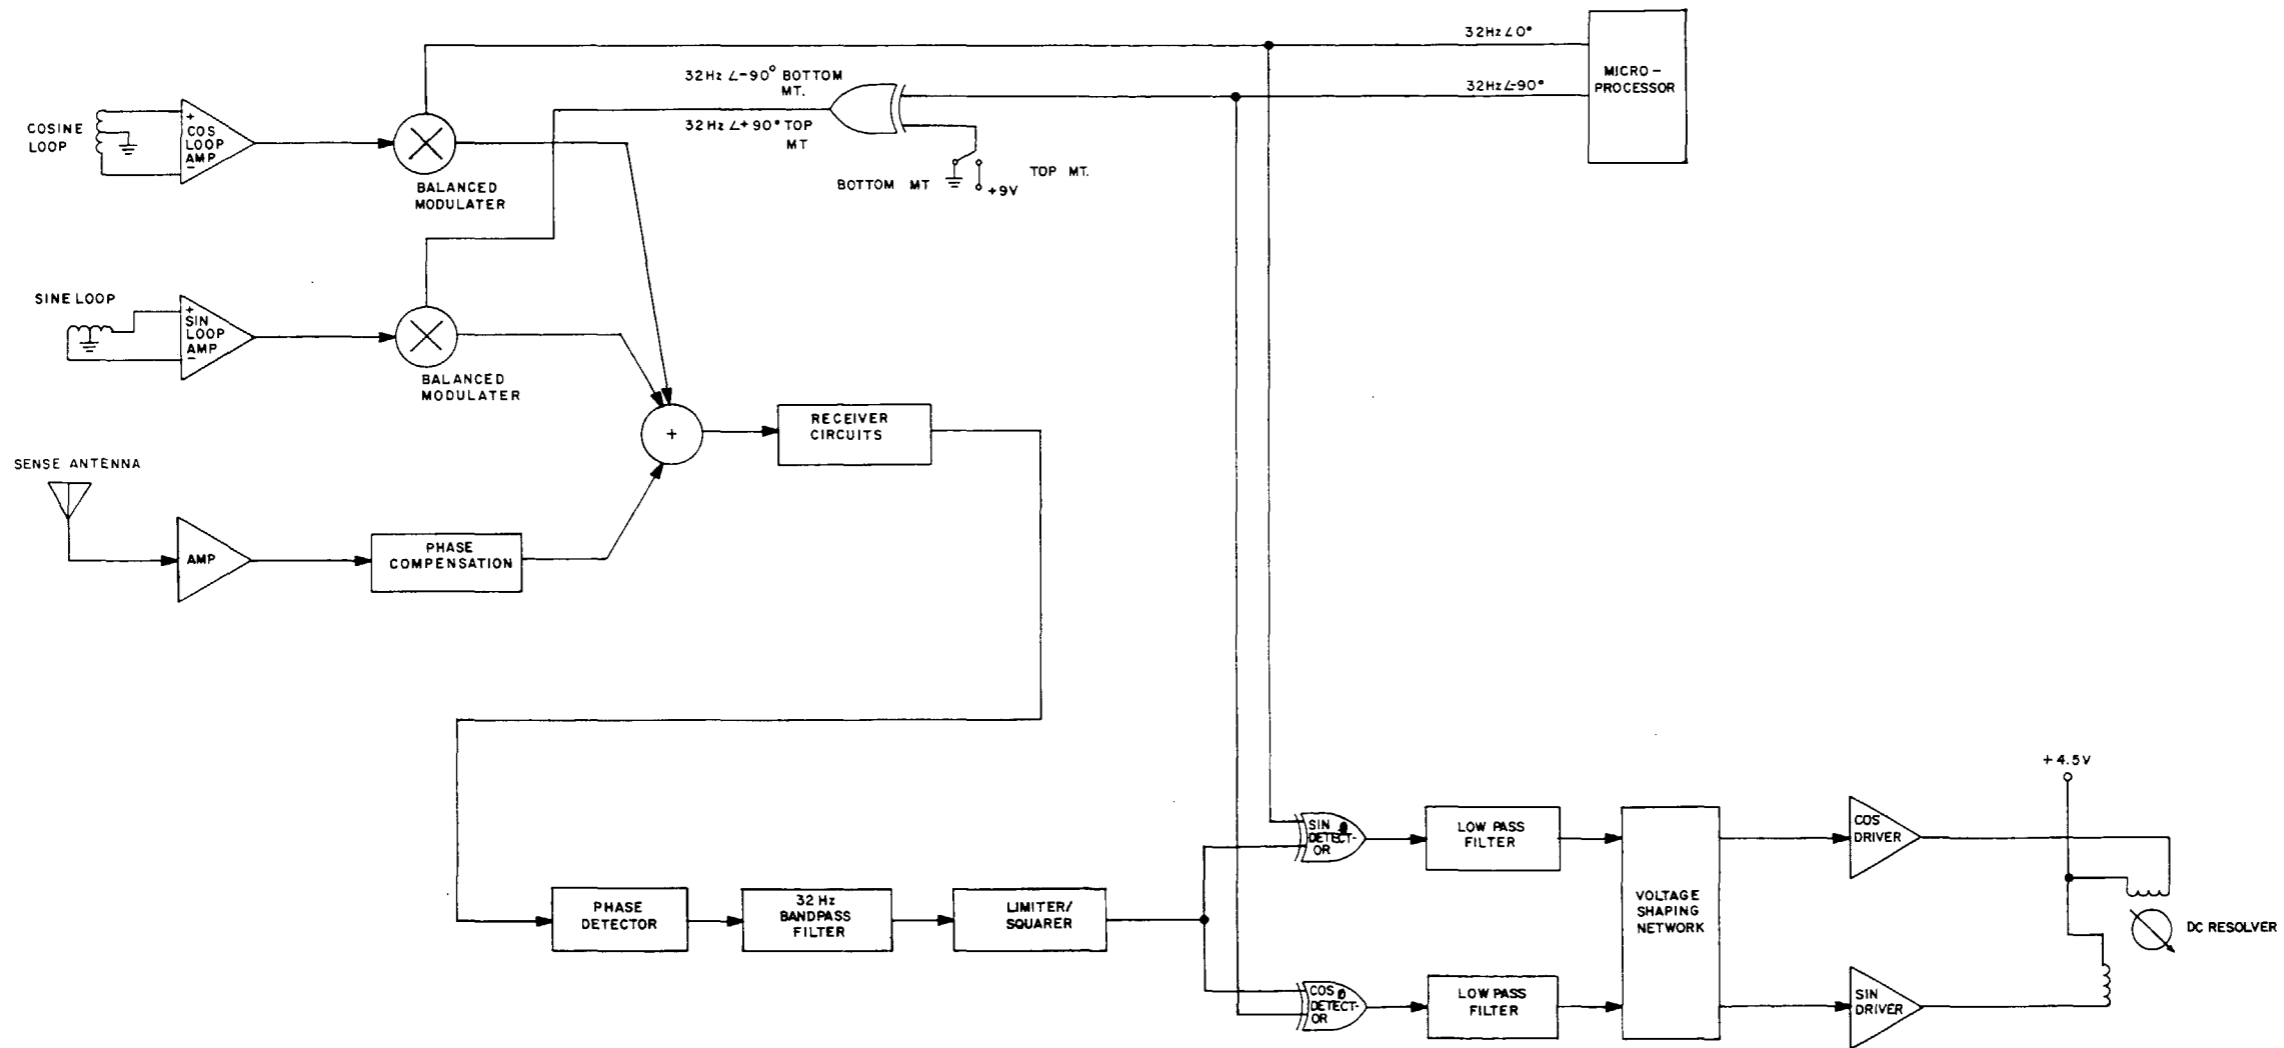

FIGURE 4-3 POINTING SYSTEM BLOCK DIAGRAM
The KR 87 uses a phase-modulated (PM) system to derive the bearing pointer signals. Refer to the pointing system block diagram in Figure 4-3 for the following discussion.